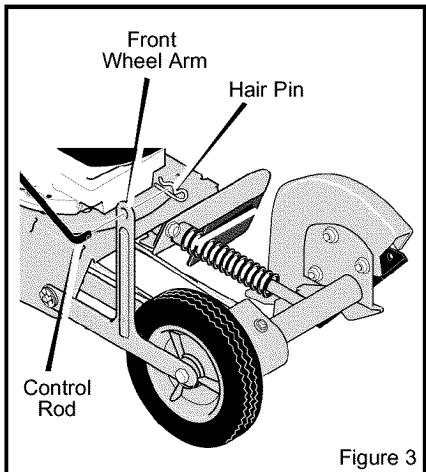

Figure 3
3. Insert the end of the **control rod**, from RIGHT to LEFT, through the hole in the **front wheel arm**. Attach with **hair pin** found in parts bag. See Figure 3.